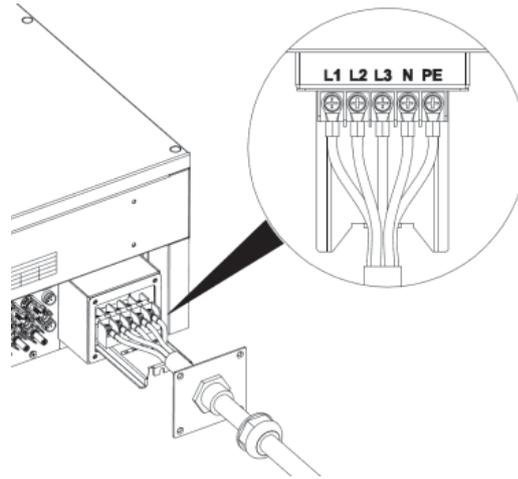

Figure 4.21 Connection of wire and connector
(6) The connection of AC cable and the connector should be correct and the screws are tightened. The tightening torque is  $2\text{N}\cdot\text{m}$ , as shown in Figure 4.21.